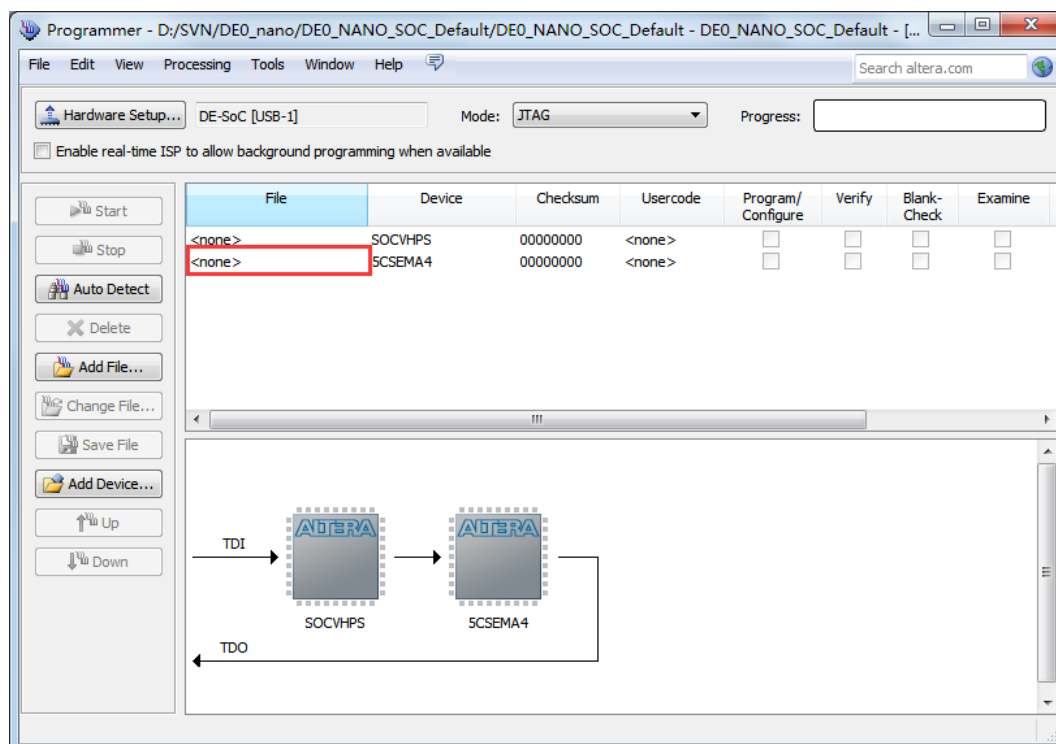

Figure 8-7 Two devices are detected in the Quartus II Programmer
3. Click **Auto Detect** and then select the correct device(SCSEMA4). Both FPGA device and HPS should be detected, as shown in **Figure 8-7**.
4. Double click the red rectangle region shown in **Figure 8-7** and the **Select New Programming File** page will appear. Select the .jic file to be programmed.
3. Click **Auto Detect**, and then select correct device, both FPGA device and HPS will detected. (See Figure 8-7)
4. Double click the red rectangle region shown in Figure 8-7, and the **Select New Programming File** page will appear. Select the correct .jic file.